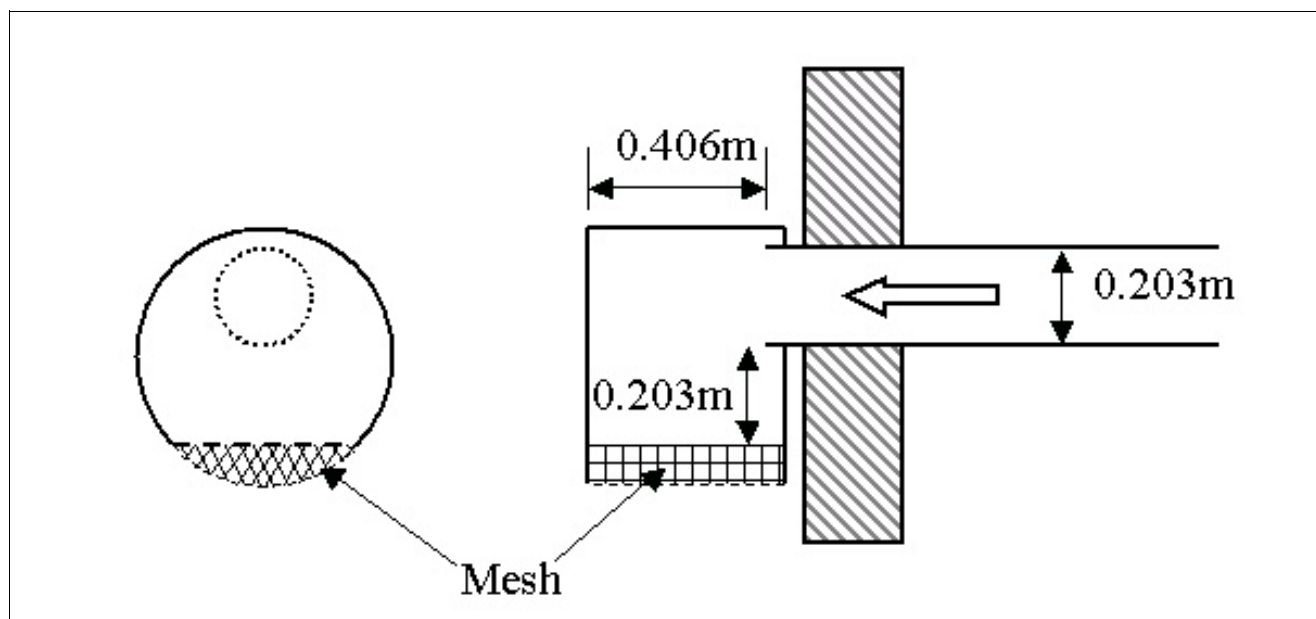

Fig. 9 Principle layout of a quench tube outlet.
7. A horizontal outlet is chosen, dimensions as in Fig. 9